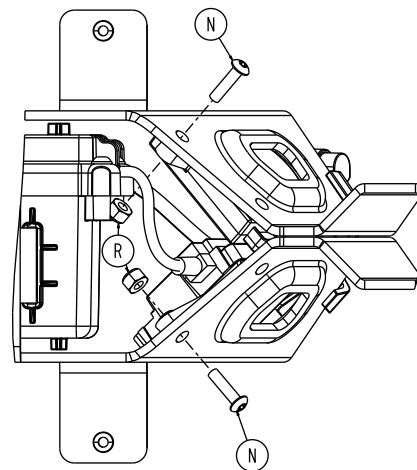

Figure 96 – Remove the wireless module screw and nut
25. Using a T25 Torx driver and a 3/8" combination wrench, remove the button head cap screw (N) and Fiberlock nut (R) that secure the wireless module, if equipped, and the NFMIC module to the cot, if equipped (Figure 96). Save the screw and nut.